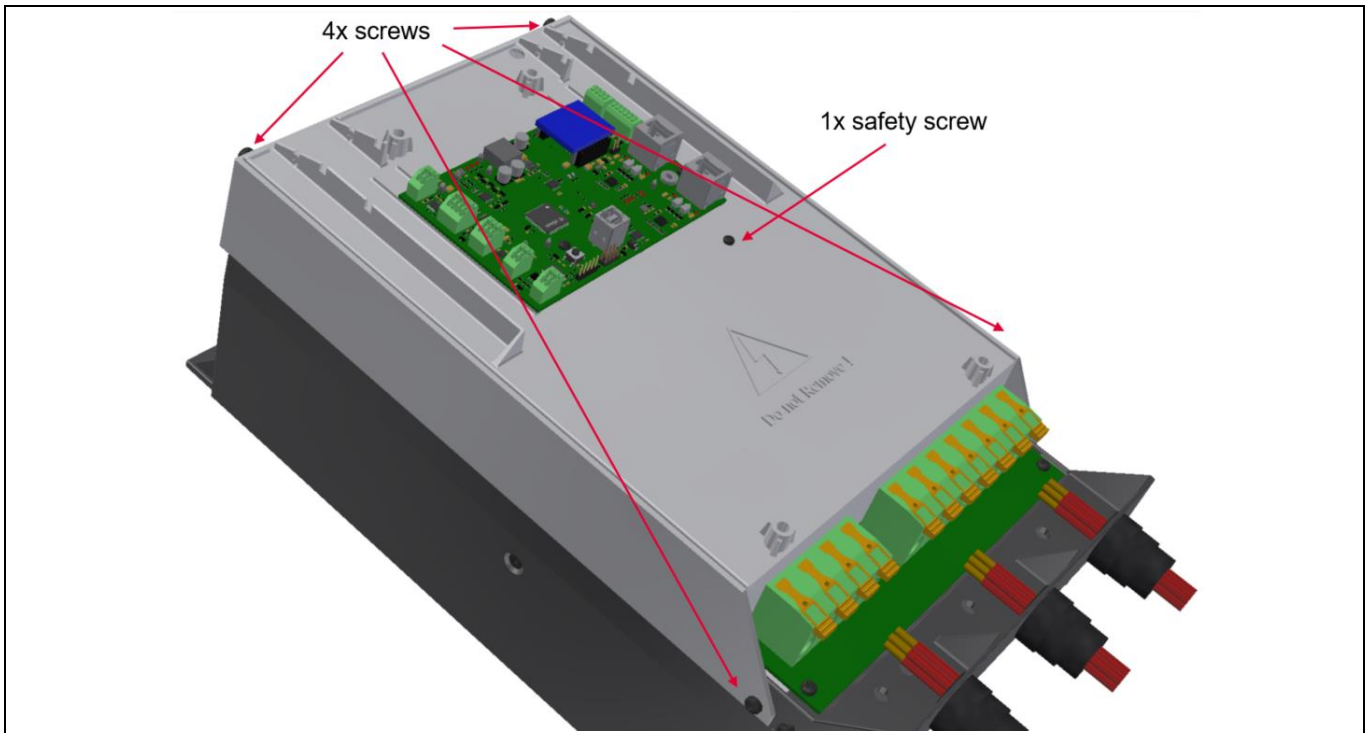

Figure 19 Disassembly of the high-voltage cover
2. High-voltage cover: remove four screws at the side of the cover; see Figure 19. Remove the safety screw at the center of the cover.